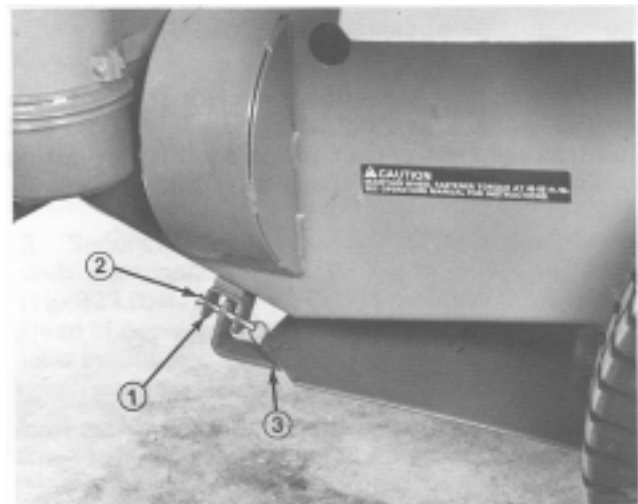

Figure 8
6. Raise the rear of the belly shield and secure it to the belly shield hangers with a clevis pin and hairpin cotter on each side (Fig. 8). Push the hairpin cotter all the way to the loop, to prevent loss.